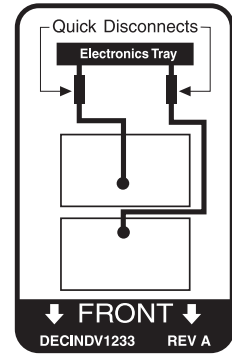

Figure 36. Battery Wiring Diagram
17. Connect the rear battery box connector and the front battery box connector to the electronics tray. See figure 36.